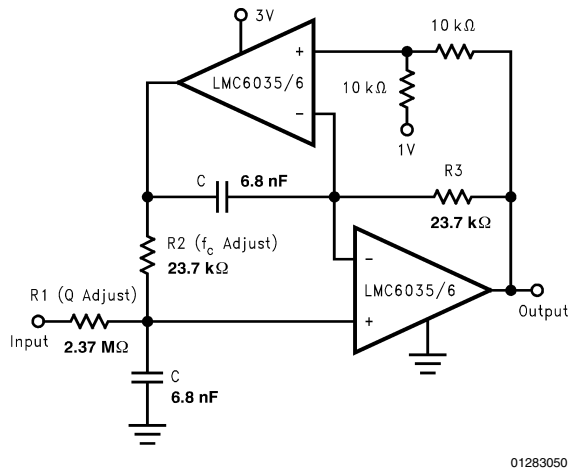

FIGURE 7. 2 Pole, 1kHz Active, Bandpass Filter
The dual amplifier bandpass (DABP) filter features the ability to independently adjust  $f_c$  and Q. In most other bandpass topologies, the  $f_c$  and Q adjustments interact with each other. The DABP filter also offers both low sensitivity to component values and high Qs. The following application of *Figure 7*, provides a 1kHz center frequency and a Q of 100.
1. First choose a center frequency ( $f_c$ ). *Figure 7* represents component values that were obtained from the following computation for a center frequency of 1kHz.  $R2 = R3 = 1/(2\pi f_c C)$  Given:  $f_c = 1\text{kHz}$  and  $C_{(\text{chosen})} = 6.8\text{nF}$